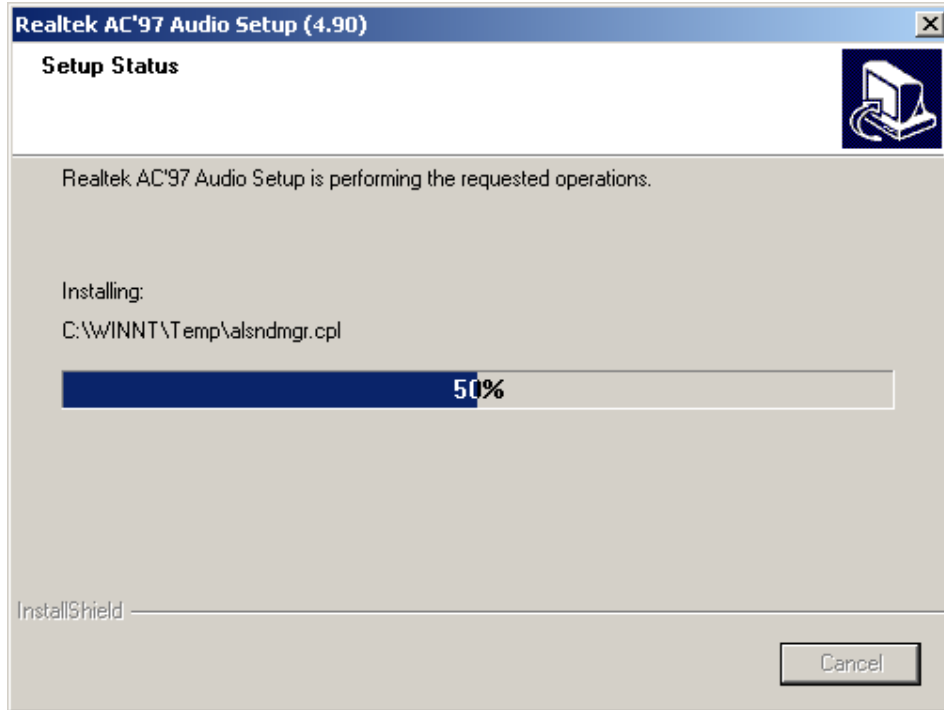

Figure 6-3: Audio Driver Setup Preparation
Step 3: The **Setup Status** screen appears as the driver is installed (Figure 6-3).